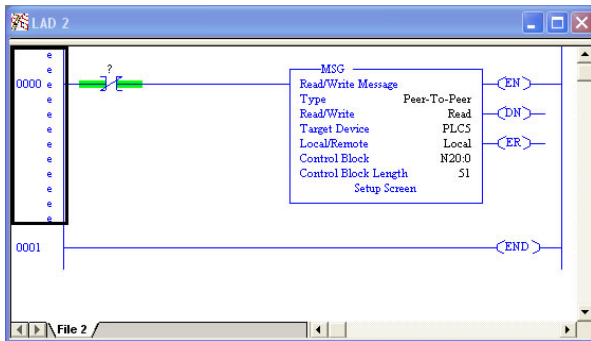

Figure 114: PLC Program after MSG Instruction Configuration
- f) Close the dialog box. At this point, the program should appear as shown in Figure 114.